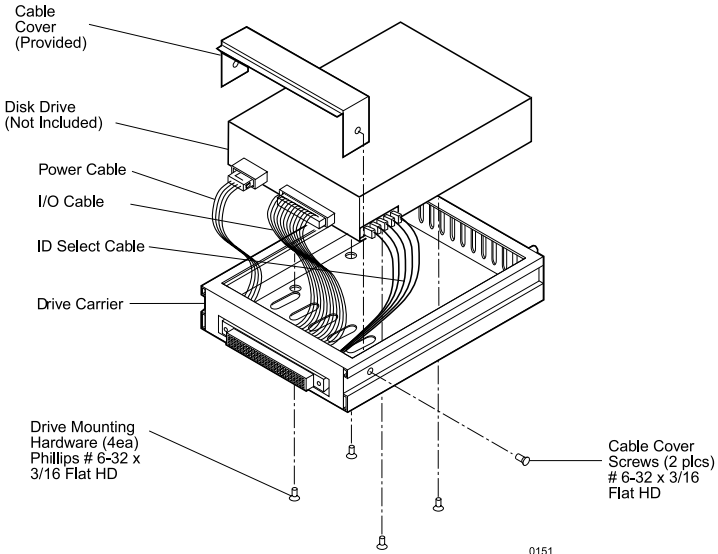

Figure 6A: Drive Installation Assembly (DE100i-SW)
1. Attach the I/O cable from the rear distribution board of the DE100i-SW carrier to the disk drive (Figure 6A).
2. Attach the 4-pin DC power cable from the rear distribution board to the disk drive (Figure 6A).